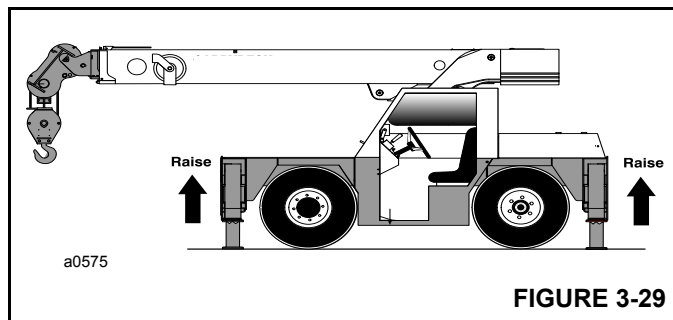

FIGURE 3-29
4. Push the bottom of the Extend/Retract Switch (2).
5. Press the accelerator pedal to increase the engine speed, which will accelerate the upward movement of the jacks (Figure 3-29). Release the accelerator pedal and the switch when the jacks are fully retracted.